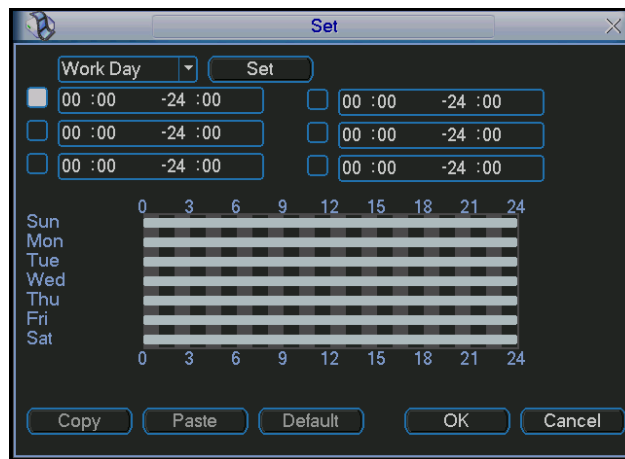
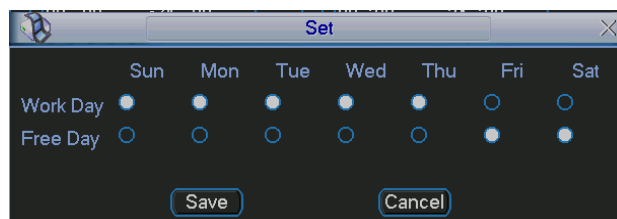

Figure 4-28
Figure 4-29
- Period: Click set button, you can see an interface is shown as in Figure 4-28. Here you can set for business day and non-business day. In Figure 4-28, click set button, you can see an interface is shown as in Figure 4-29. Here you can set your own setup for business day and non-business day.